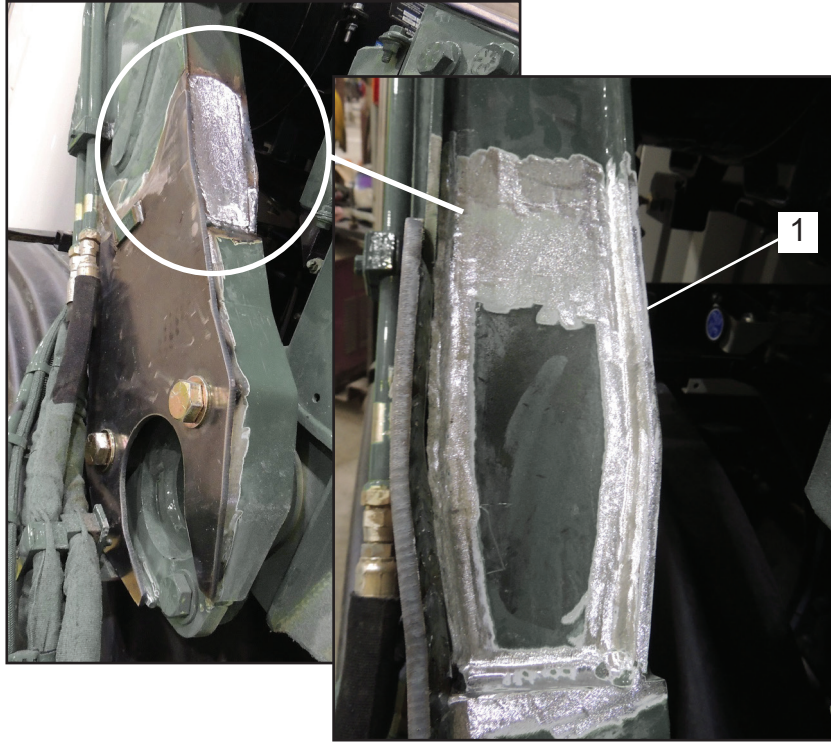

Figure 11
21. Use a pencil grinder to grind the area clean in the arm channel where the top plate will be installed (Figure 11). The view (Figure 11, Item 1) is looking forward and down into the street side arm channel just above the arm base.